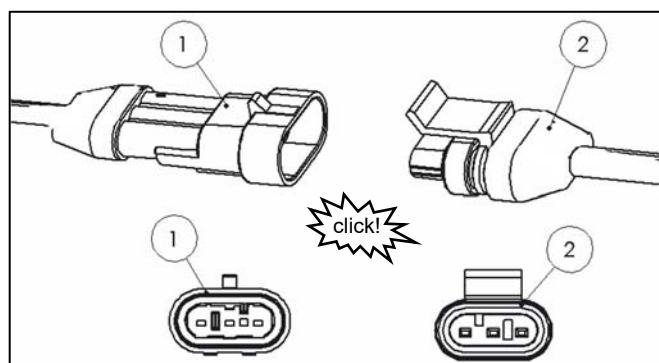

Fig. 43
- Connect the connector (1) to the Control Unit connector (2) (see Fig. 43).